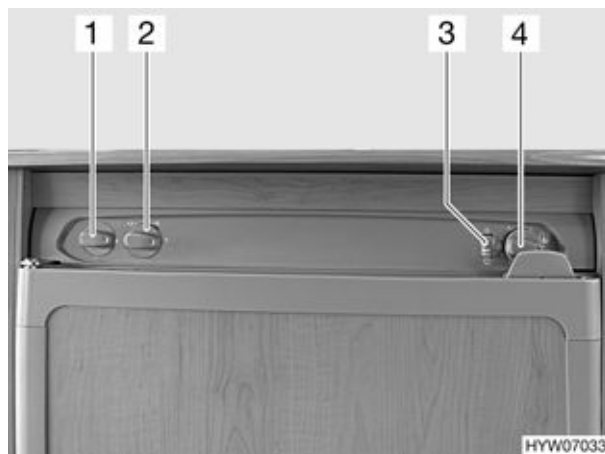

Fig. 147 Operating controls for refrigerator (variant 3)
- Set the energy selector switch (Fig. 147,1) to "GAS".
- Set the control knob (Fig. 147,5) to maximum power. Gas supply is open. Ignition will take place automatically. The "GAS" operating indicator (Fig. 147,2) lights up yellow. A ticking sound can be heard until ignition has been completed successfully.
- Set energy selector switch (Fig. 147,1) to "O". The appliance is switched off.
- Set energy selector switch (Fig. 147,1) to "240 V". The green "240 V" operating indicator (Fig. 147,3) lights up.
- Use control knob (Fig. 147,5) to adjust refrigerating temperature.
- Set energy selector switch (Fig. 147,1) to "12 V". The green "12 V" operating indicator (Fig. 147,4) lights up.